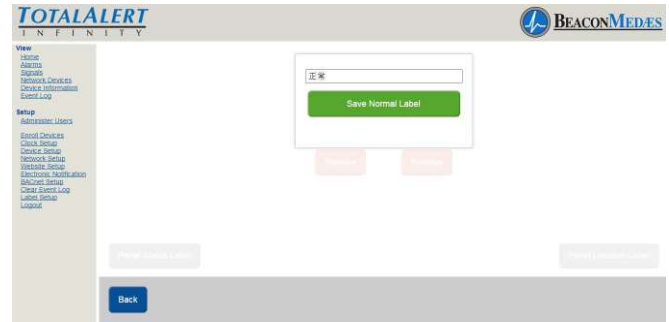

Figure 263
3. Enter non-latin language text for meaning of “Normal”. Click save button to enter. (See Figure 263) Choose “Back” button to return to the main setup screen.